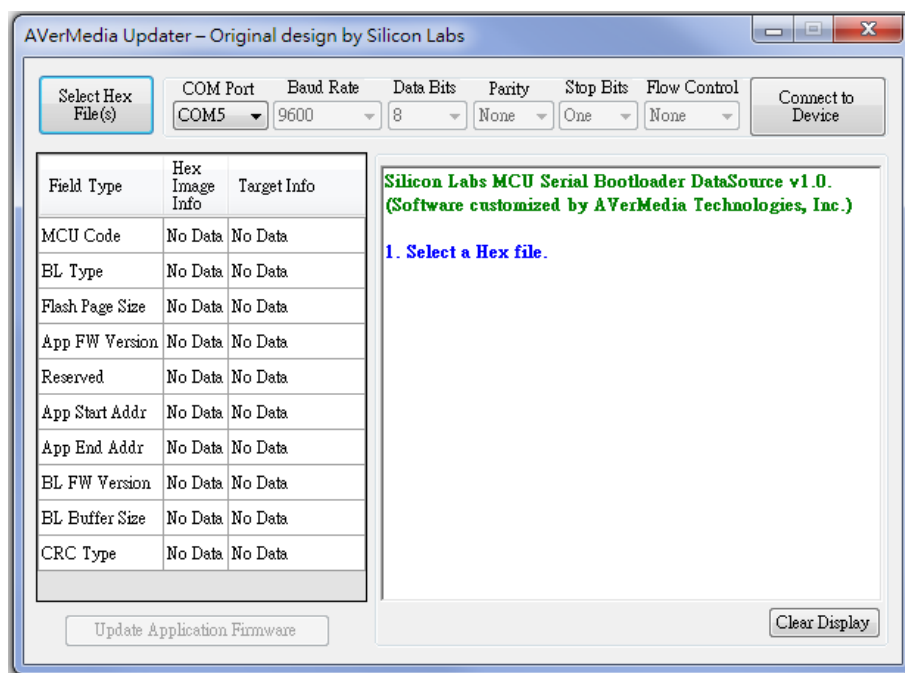

Figure 10.2-1 Running AVerMedia Updater Application Window
2. Run the **CT130Updater_V1.0.0.3_2014103001.exe** and message will prompt in the application window with steps to execute as in Figure 10.2-1.